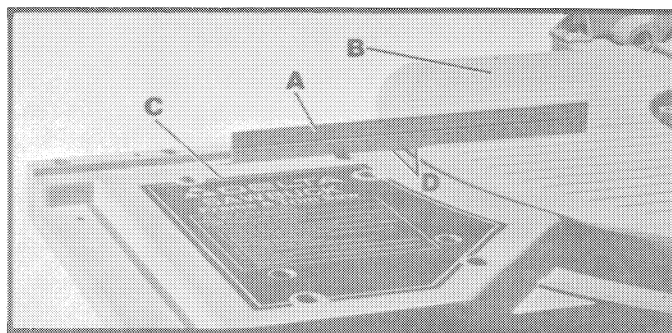
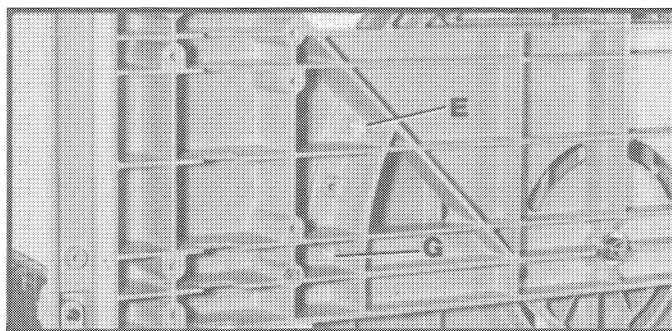
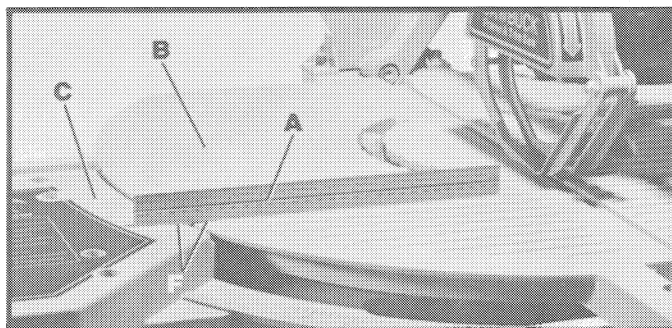

Fig. 31
Fig. 33
Fig. 34
3. Using a straight edge (A) Fig. 31, check to see if the top surface of the rotating table (B) is level with the top surface of the fixed table (C) at the rear position as shown. **NOTE:** There is a five-degree bevel on the edges of the fixed and rotating tables as shown at (D).
5. Turn the rear adjustment screw (G) Fig. 33, until the rotating and fixed tables are level with each other as shown in Fig. 31.
7. Using a straight edge (A) Fig. 34, check to see if the top surface of the rotating table (B) is level with the top surface of the fixed table (C) at the front position as shown. **NOTE:** There is a five-degree bevel on the edges of the fixed and rotating tables as shown at (F).
8. If an adjustment is necessary turn the front adjusting screw (E) Fig. 33, until the tables are level with each other as shown in Fig. 34.